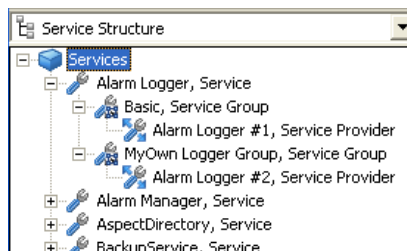

Figure 65. Logger Aspects in the Service Structure
3. In this example the default Logger Configuration aspect, delivered with the system, can be used for one printer, and an own for the other, refer to Figure 65.